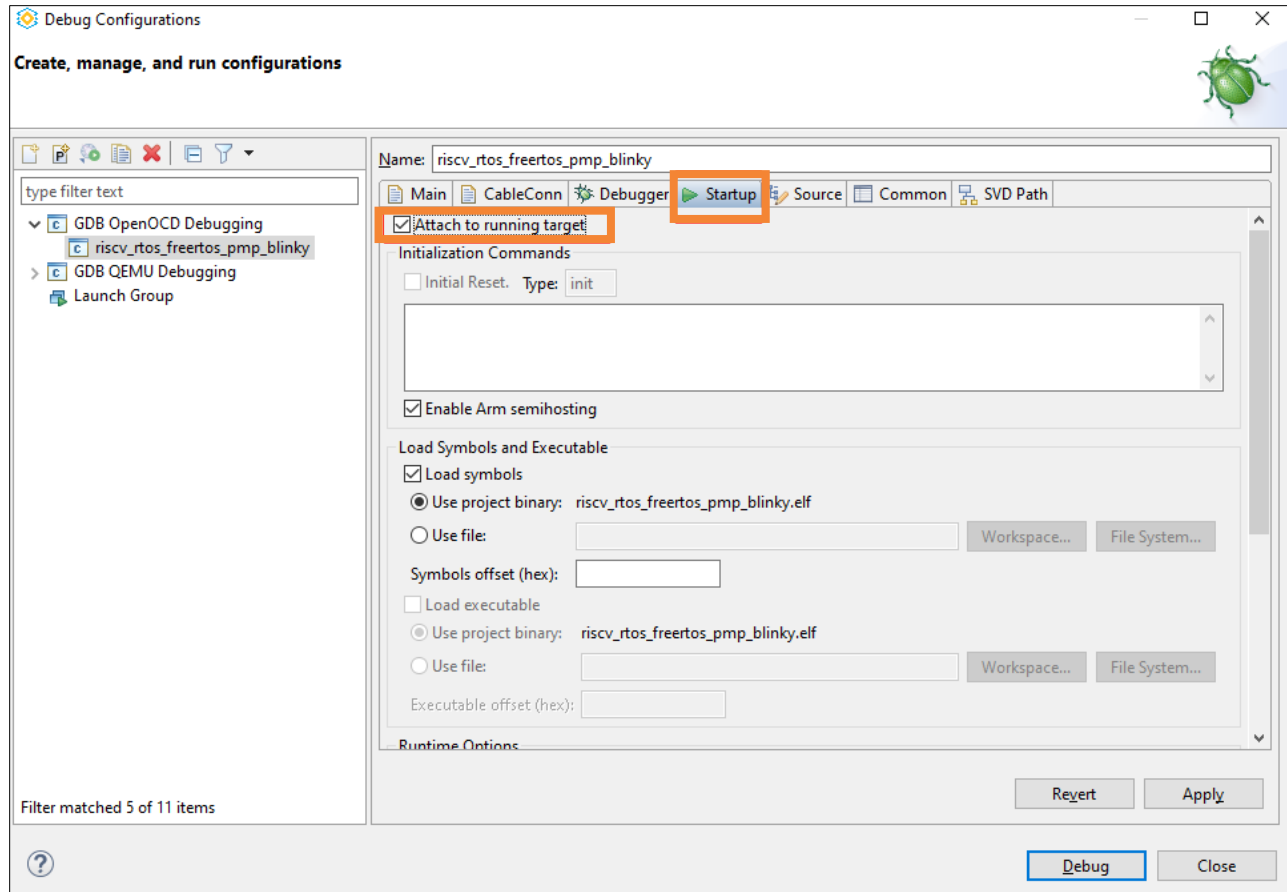

Figure E.2. Debug Configurations Dialog 8
2. Select Run > Debug Configurations.... Select the corresponding item (Figure E.2).
3. Select Startup tab. Check Attach to running target checkbox (Figure E.2). Click Apply. Click Debug.